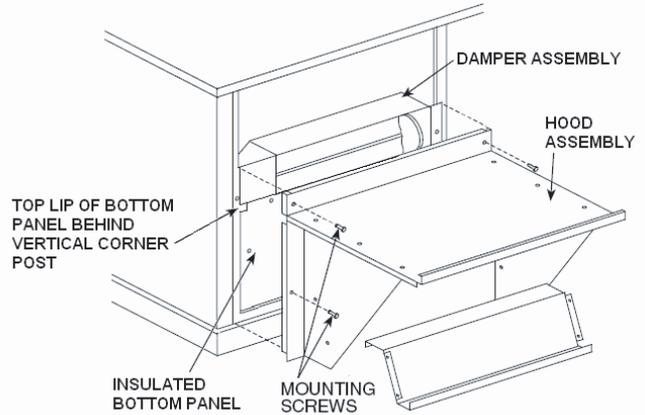

Fig. 3 — Damper and Hood Panel Installation
4. Install galvanized, insulated bottom panel per Fig. 3, with the slot at the top of the panel. The lip of the slot should fit behind the corner post as shown. Screw in place.
5. Lift damper assembly and set in place over the top of the bottom panel, per Fig. 3. Secure the damper assembly in place with provided screws.